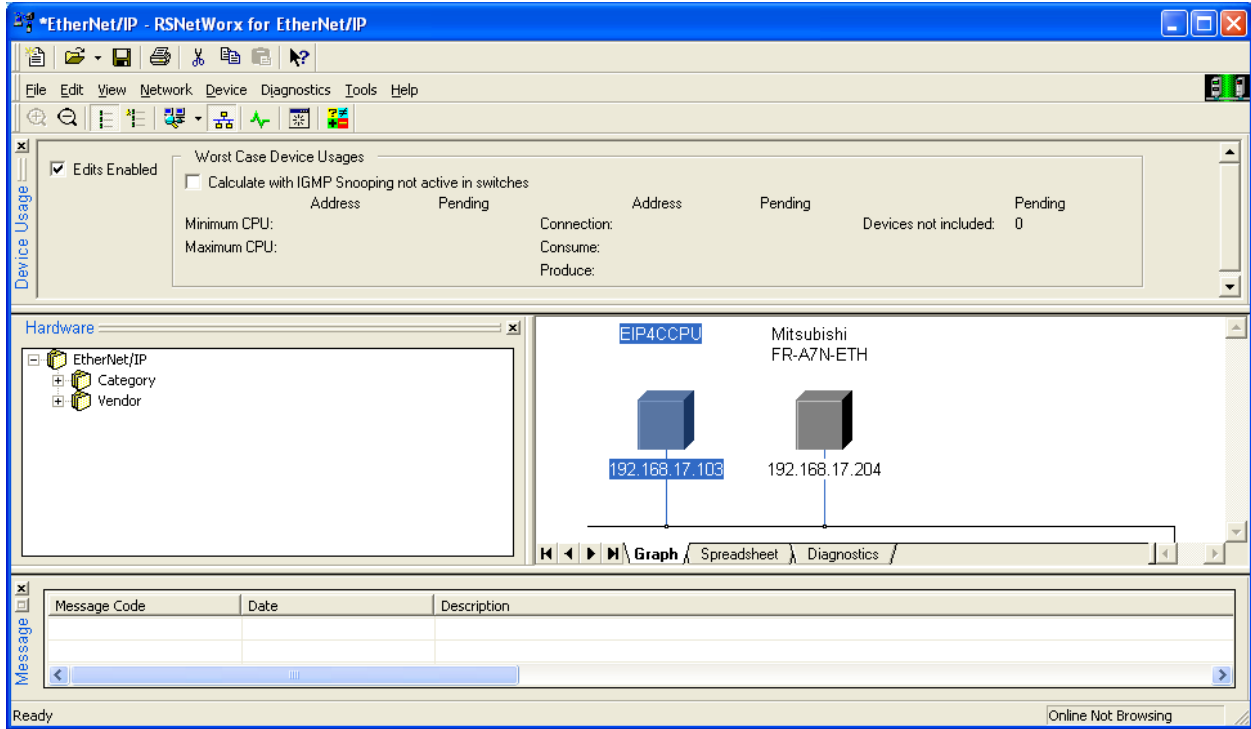

Figure 60: RSNetWorx Online
- c) Browse the EtherNet/IP network. Navigate to Network->Online. All nodes connected to the network should appear in the graph (see Figure 60).